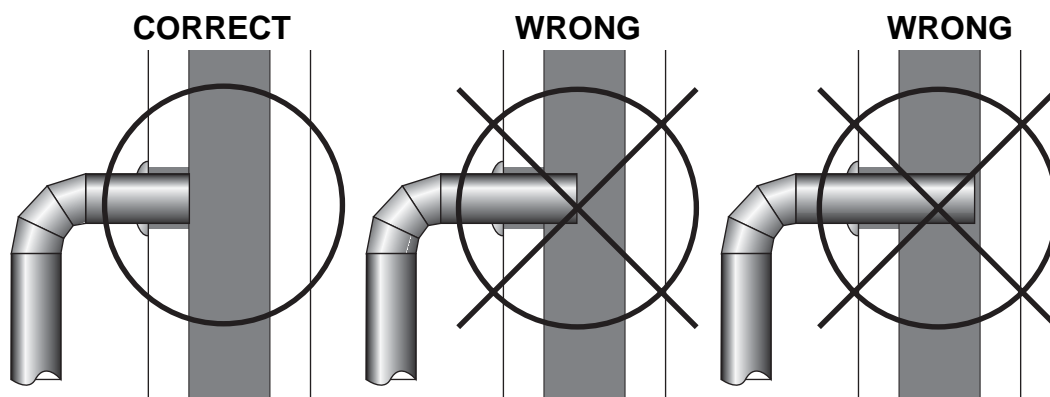

Fig. 7 – Stovepipe/Flue Connections
4. The pipe cannot extend into the chimney flue (figure 7).
5. Secure pipe/elbow sections with three (3) sheet metal screws at each joint to make the piping rigid.
6. It is recommended that no more than two (2) 90° bends be used in the stovepipe installation. The use of more than two 90° bends may decrease the amount of draw and possibly cause smoke spillage. Where possible, use only corrugated (nonadjustable) elbows. These provide a better seal.
2. Install a metal or fire clay (5/8” minimum thickness) thimble. Make sure the thimble is flush with the inner surface of the chimney liner and does not protrude into the flue (see figure 7 on page 6).
4. Install the stovepipe into the thimble as far as possible without extending past the flue lining (see figures 7 & 8 on pages 6 & 7).